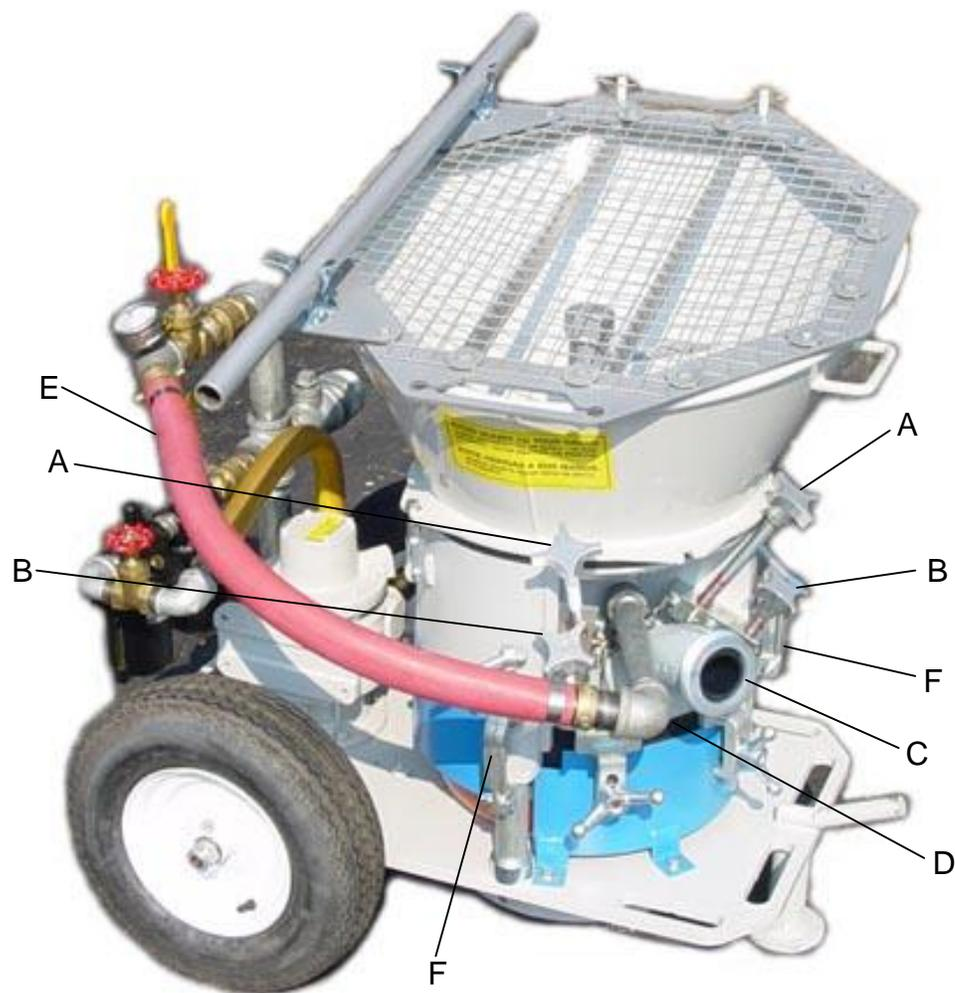

FIGURE 3
1. Loosen the valve pad clamps (Figure 3, items A and B).
2. Without disconnecting the air hose (Figure 3, item E), remove the gooseneck and pad adapter (Figure 3, items C and D).
3. Loosen and swing away the hopper hold-down clamps (Figure 3, item F).
17. Tilt the hopper back down and clamp into place with the three (3) hold down clamps (Figure 3, item F).
24. Connect the air supply hose (Figure 3, item E) to the gooseneck adapter fitting (Figure 3, item D) if disconnected in step 2. See Figure 11.